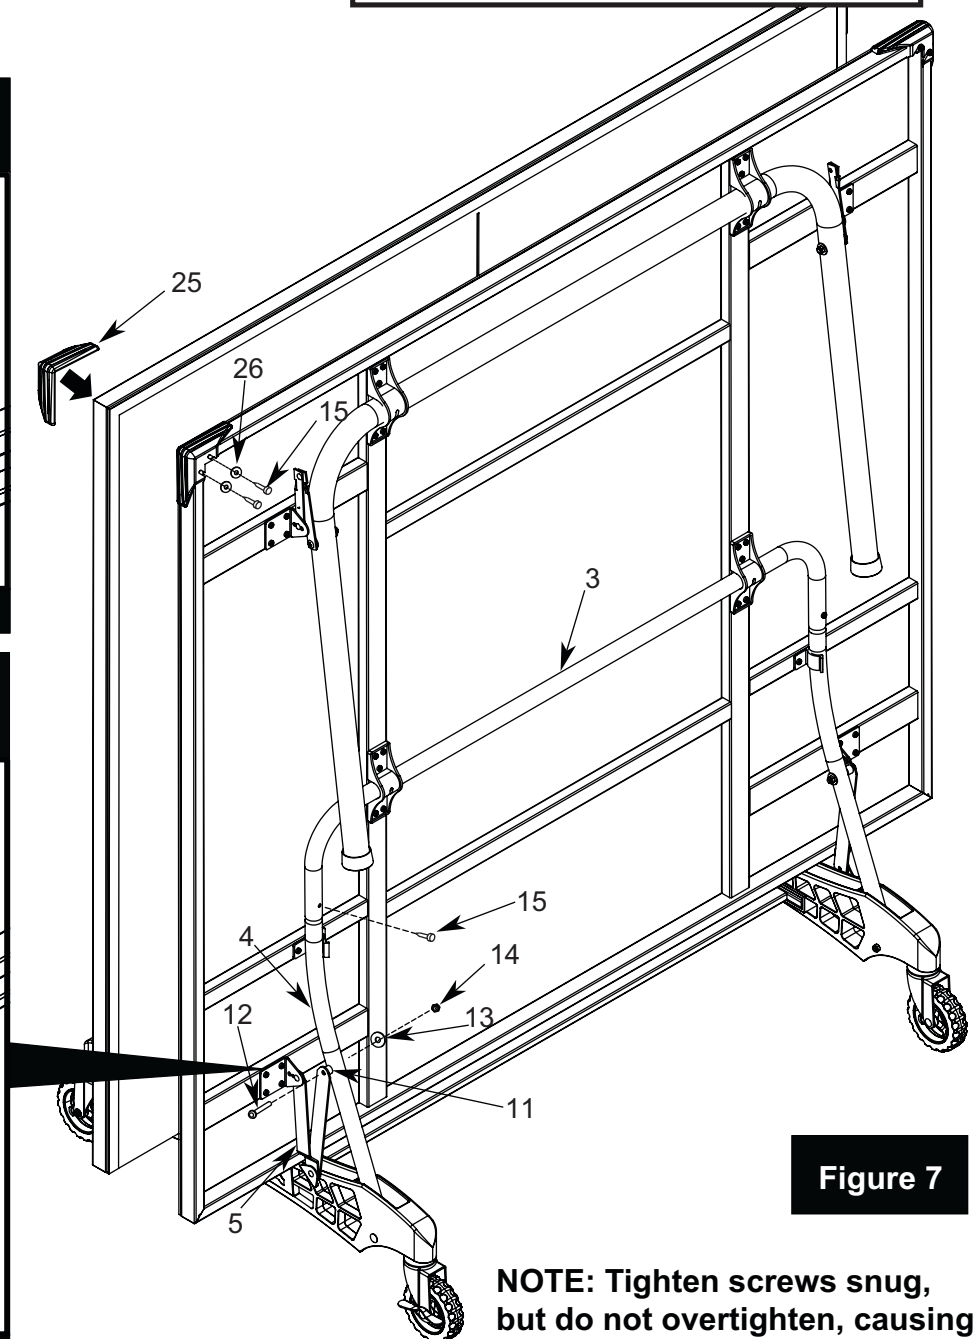

Figure 7
7. Attach U-Support (#3) and Strut Tubes (#4) using two Screws (#15) as shown in **FIGURE 7**.
8. Attach Long Hinge & Mounting Bracket Assemblies (#5) to Strut Tubes (#4) using two Bolts (#12), two Spacers (#11), two Flat Plastic Washers (#13) and two LockNuts (#14) as shown in **FIGURE 7** and **DETAIL F**. Tighten Nuts snug, but **DO NOT OVERTIGHTEN**, hinges must pivot.
9. Attach two Corner Protectors (#25) to Top Assembly using four Screws (#15) with four Washers (#26) as shown in **FIGURE 7**. **Repeat for other Table Top.**